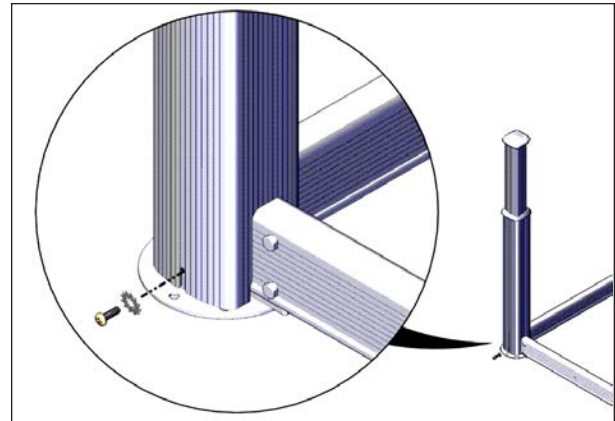

FIGURE 81: SLEEVE BOTTOM SCREW
1. Partially unscrew the M6 x 20 mm Phillips screw located at the base of the external sleeve of the post, see Figure 81.